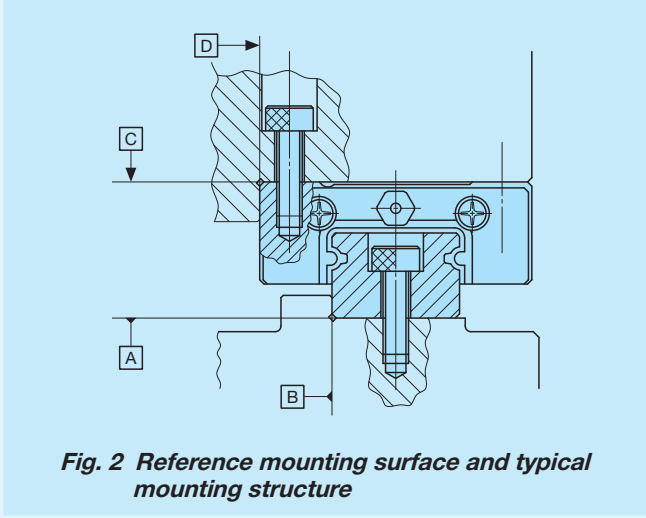

Fig. 2 Reference mounting surface and typical mounting structure
① Mounting surface, reference mounting surface and general mounting structure
When mounting the ML(F) series and LWL(F) series, properly align the reference mounting surfaces B and D (D1 or D2) of the track rail and slide unit with the reference mounting surface of the table and bed and fix them. (See Fig. 2)